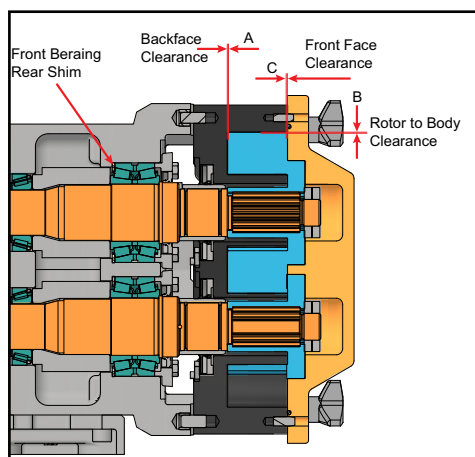

Figure 95 - Clearance Measurements
2. With feeler gauges, measure the rotor backface clearance (Figure 95, item A), through the port or from the front.
3. Measure the rotor front face clearance (Figure 95, item C).
4. Measure the rotor to body clearance (Figure 95, item B).